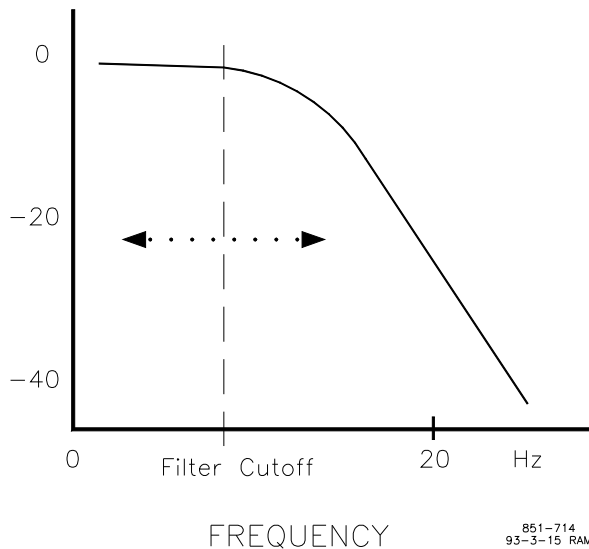

Figure 3-5. Speed Filter
8. **SPEED FILTER** adjusts the cutoff frequency of a low pass filter used on the speed sensing input (see Figure 3-5). To use this feature set SPEED SETTING MENU - ENABLE SPEED FILTER to TRUE. The filter is used to attenuate engine firing frequencies. To calculate the desired filter cutoff point, use the following formulas:
15. **SPEED FILTER FREQ** is the cutoff frequency of a low pass filter used on the speed sensing input (see Figure 3-5). To use this feature set the cutoff frequency below 15.915 Hz. The filter is used to attenuate engine firing frequencies. To calculate the desired filter cutoff point, use the following formulas: